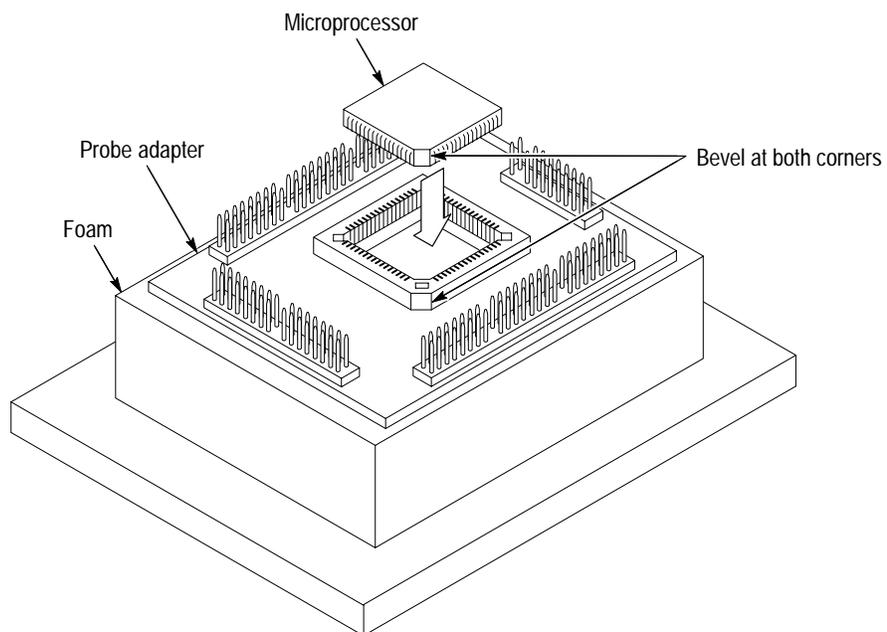

Figure 1-4: Placing a microprocessor into a PLCC probe adapter
3. Place the probe adapter onto the antistatic shipping foam to support the probe as shown in Figure 1-4. This prevents the circuit board from flexing.
6. Place the microprocessor into the probe adapter as shown in Figure 1-4.